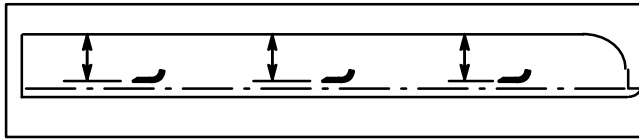

Figure 29
CHECKING FOR BENT BLADE (Fig. 29)
2. Rotate blade until the ends face forward and backward. Measure from inside of cutting unit to cutting edge at front of blade (Fig. 29), and remember this dimension.